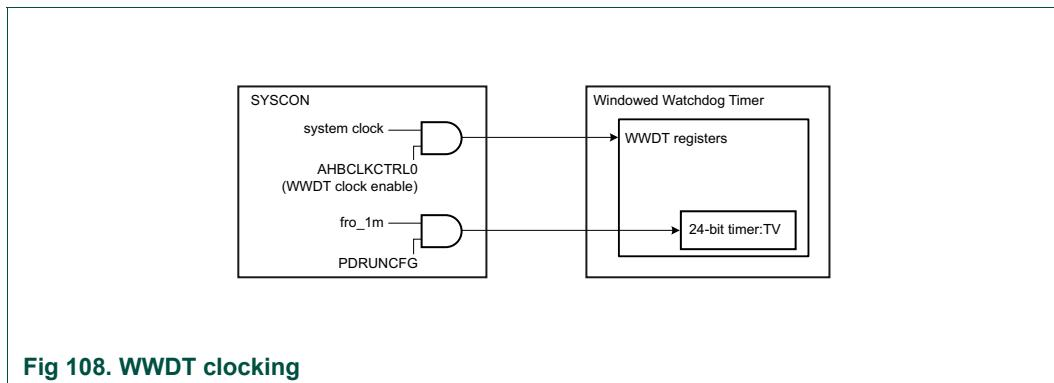

Fig 108. WWDT clocking
- The watchdog clock (WDCLK) is generated from always on FRO_1MHz clock, see Figure 108 that can be divided by WDT clock divider register value in SYSCON module. See Table 105. The accuracy of this clock is limited to +/- 15% over temperature, voltage, and silicon processing variations. To determine the actual watchdog frequency, use the frequency measure block. See Chapter 11 “LPC55S6x/LPC55S2x/LPC552x Analog control”